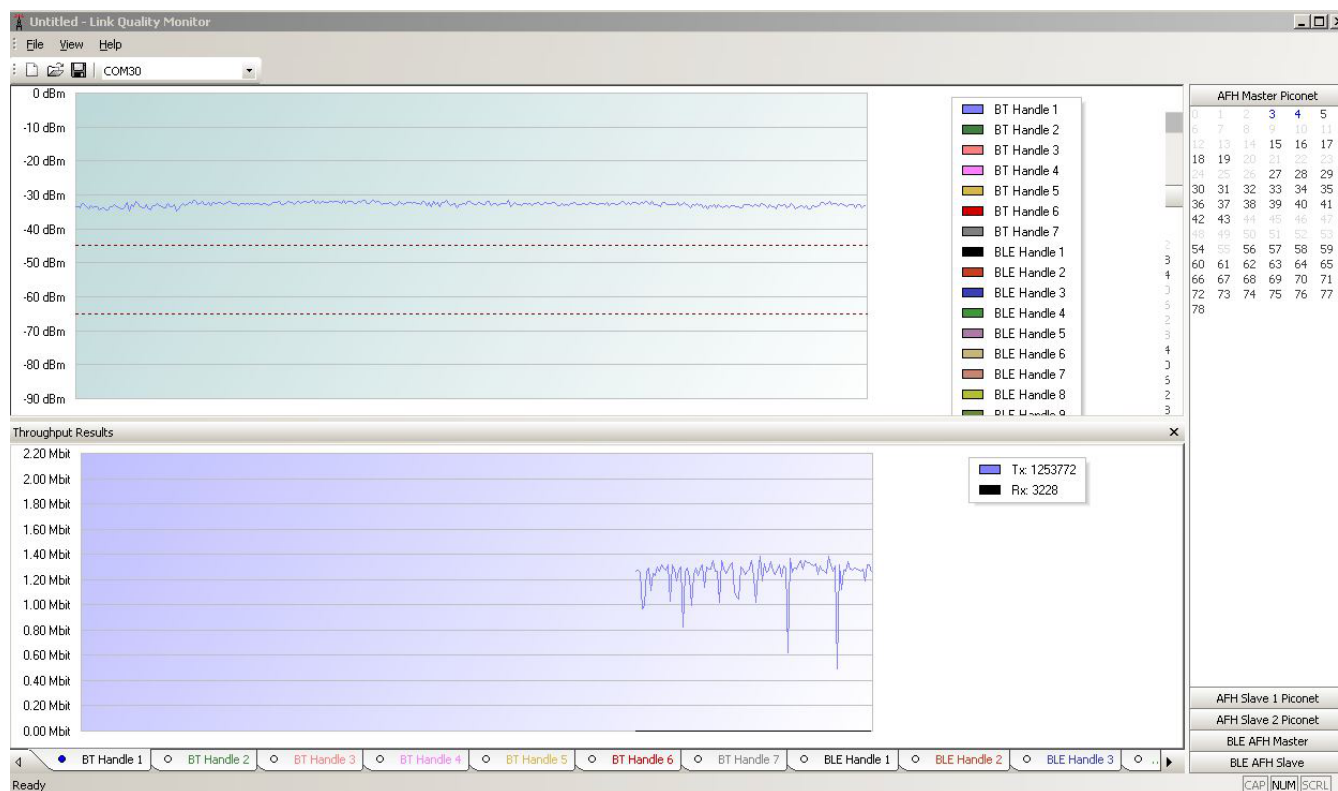

Figure 20. LQM Main Window
2. The LQM main window displays with the following panes (see Figure 20):